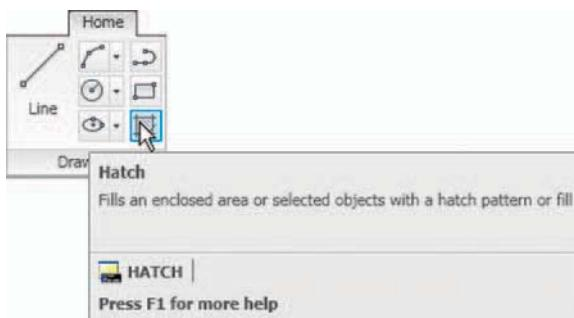
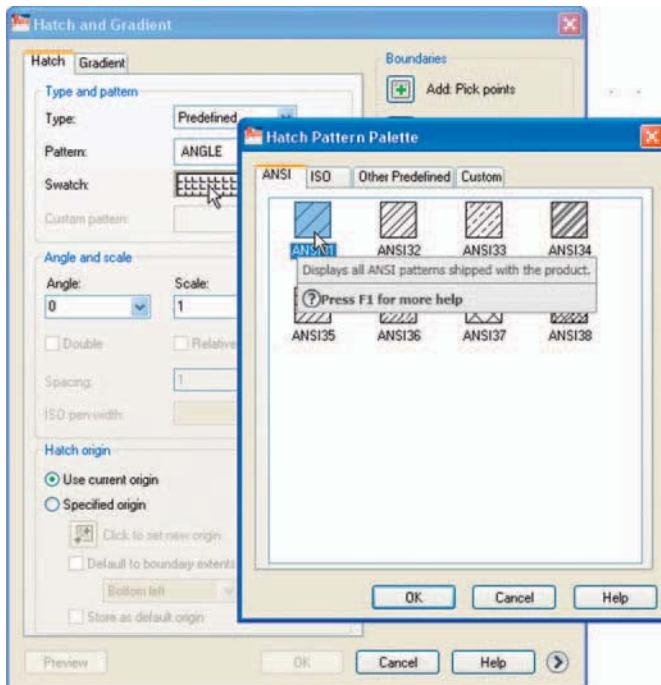

Fig. 7.11 The **Hatch** tool icon and tooltip from the **Home/Draw** panel
Fig. 7.12 The Hatch and Gradient dialog and the ANSI Hatch Pattern palette
1. Call the **Hatch** tool – either *left-click* on its tool icon in the **Home/Draw** panel (Fig. 7.11), click the tool in the **Draw** toolbar, or *enter h* at the command line. (*Note* – do not *enter hatch* as this gives a different result). The **Hatch and Gradient** dialog (Fig. 7.12) appears.